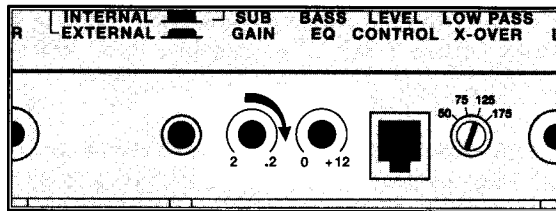

Figure 6 - Gain Control
3. Turn the "Gain" setting adjustments on the M44 clock-wise (i.e. to the right) until you hear the amplifier distort. The M44 "clips" very softly so this can sometimes be a difficult adjustment. Please listen carefully! (see Figure 6)